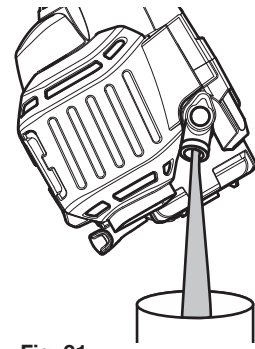

Fig. 31
3. Tip the unit vertically to pour the oil out of the oil fill hole and into a container (Fig. 31). Allow ample time for complete drainage.